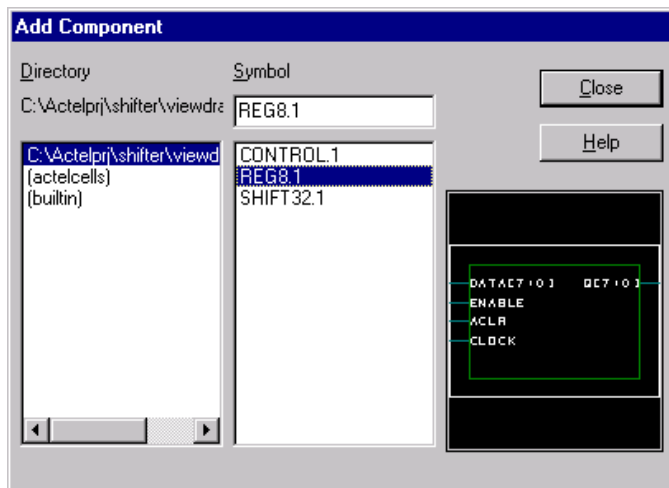

Figure 14 - ViewDraw Add Component dialog box
4. From ViewDraw, choose *Add* from the Component menu. The Add Component dialog box appears (Figure 14).
In the Add Component dialog box, highlight *C:\Actelprj\shifter\viewdraw* in the Directory window and *reg8.1* in the Symbol window (Figure 14).